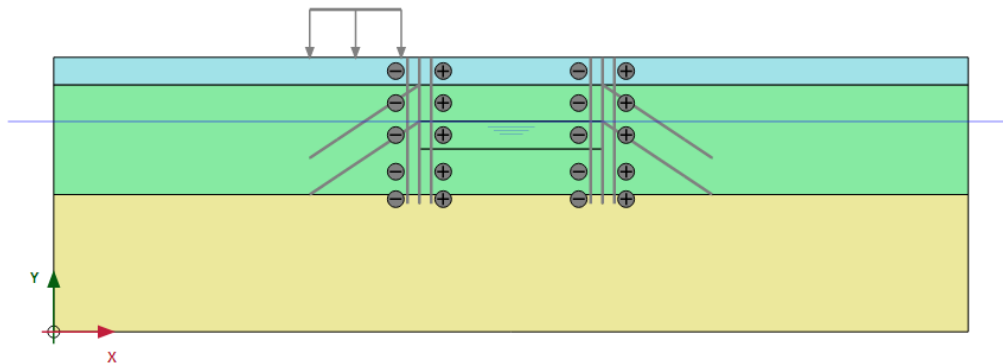

Figure 84: Configuration of the initial phase
- The model for initial phase is shown in Figure 84 (on page 112).